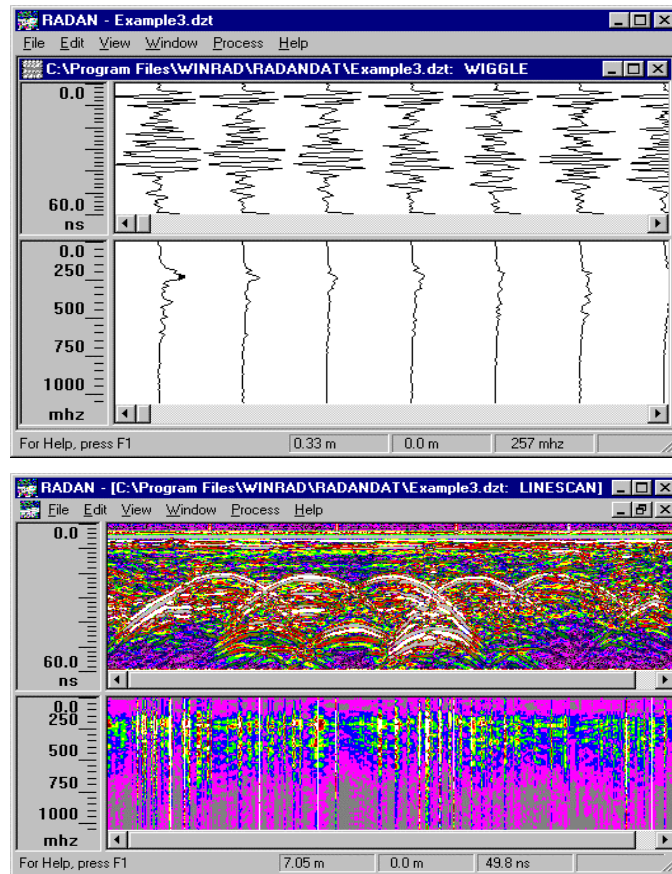

Figure 43: Split Display with a frequency spectrum in Wiggle format (top) and Linescan Format (bottom).
- In the Wiggle format, the wiggle traces (waveforms) will be replaced with their spectral plots (Figure 43).